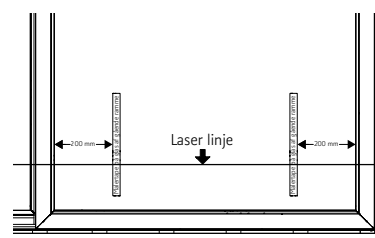

Figure 14: Laser position 0 - apply tape to sash
- Apply painter's tape vertically on both sides of the master sash, centered over the wheels at a height that intersects the laser beam (figure 14).